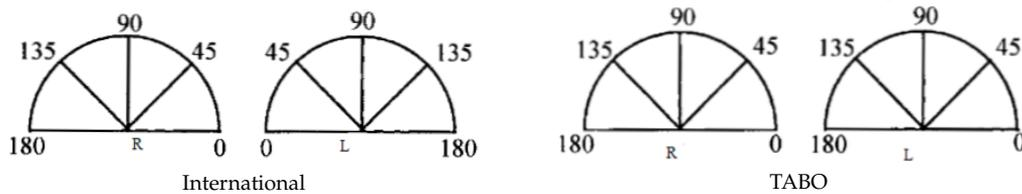

Figure 38: Angle prescriptions.
**Prescription type:** this setting allows the user to select the convention used for measuring angles. Figure 38 compares TABO and International. TABO and International are identical for right side, while for the left side the following rule holds:  $TABO = 180^\circ - INT$ .